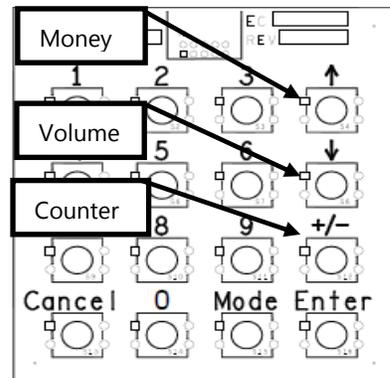

Figure 26.5 – Manager's Keypad
**Note:** To move from money press the ↑ button, to volume press the ↓ button, to counter totals press the +/- button as shown in Figure 26.5. Remember, only the number of products selected in Menu Code 7 will be displayed.